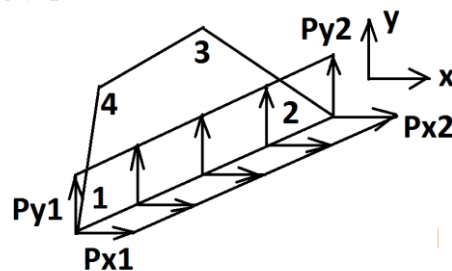

Fig. 5.
34. Derive the consistent nodal load vector for the element shown in fig. 5.